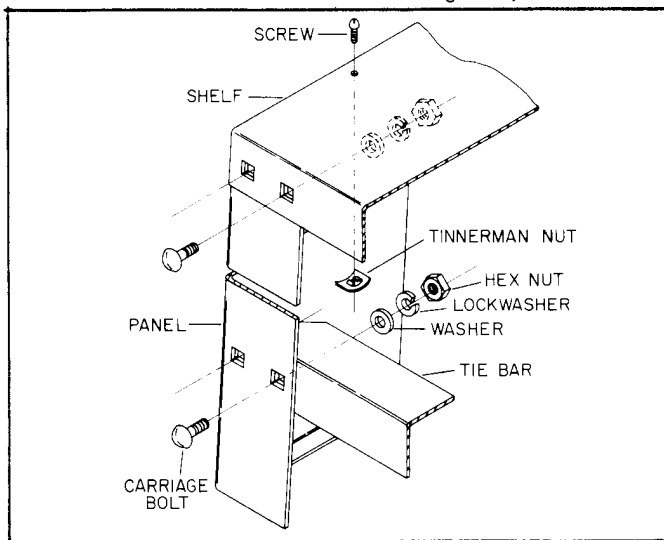

Fig. 12
1. Assemble the top shelf and the two braces to the two panels of the stand, as shown in Fig. 12, using the 16 carriage bolts, flat washers, lockwashers and nuts supplied.
2. Fasten the top shelf to the panels using the 4 screws and tinnerman nuts supplied as shown in Fig. 12.